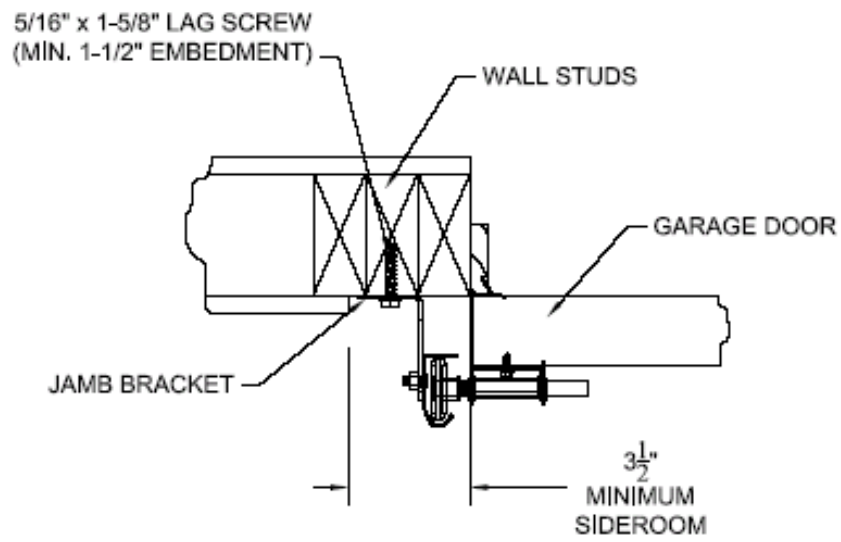
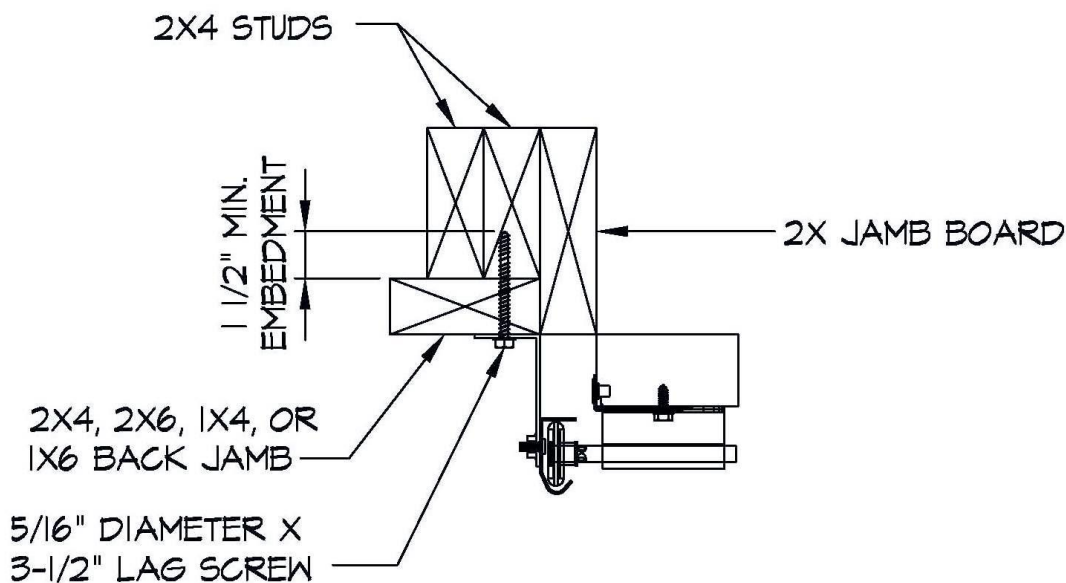

Figure 1: Attachment of garage door brackets directly to wood wall framing (Option 1)
Figure 3: Attachment of garage door brackets directly to structure through wood jamb (Option 3)
- Direct attachment of track to wood-framed walls:** Brackets for the vertical tracks and flag angles of the door may be attached directly to the wall framing with the fasteners specified on the design drawings, therefore eliminating the need for the 2x6 wood jamb called for on the design drawings. The attachment of the vertical tracks must be as shown in Figure 1. Track bracket spacing must be as specified in the Installation section of this evaluation report.
- Attachment of garage door brackets directly to structure through wood jamb:** Brackets for the vertical tracks and flag angles of the door may be attached directly to the wall framing through the wood back jamb with 5/16" x 3-1/2" lag screws as shown in Figure 3. This configuration will eliminate the need for the back jamb to have additional fastenings to the
5. **Overlap of jamb trim boards:** Doors that are not required to overlap the jamb may overlap jamb trim boards shown in Figures 3 and 4. Jamb trim boards may also be installed on construction types shown in Figures 1 and 2. Doors requiring 1" overlap must have 1" of overlap extending over the framing studs and (or) the wood back jamb when installed over the framing studs. Framing "studs" may also be concrete or steel.